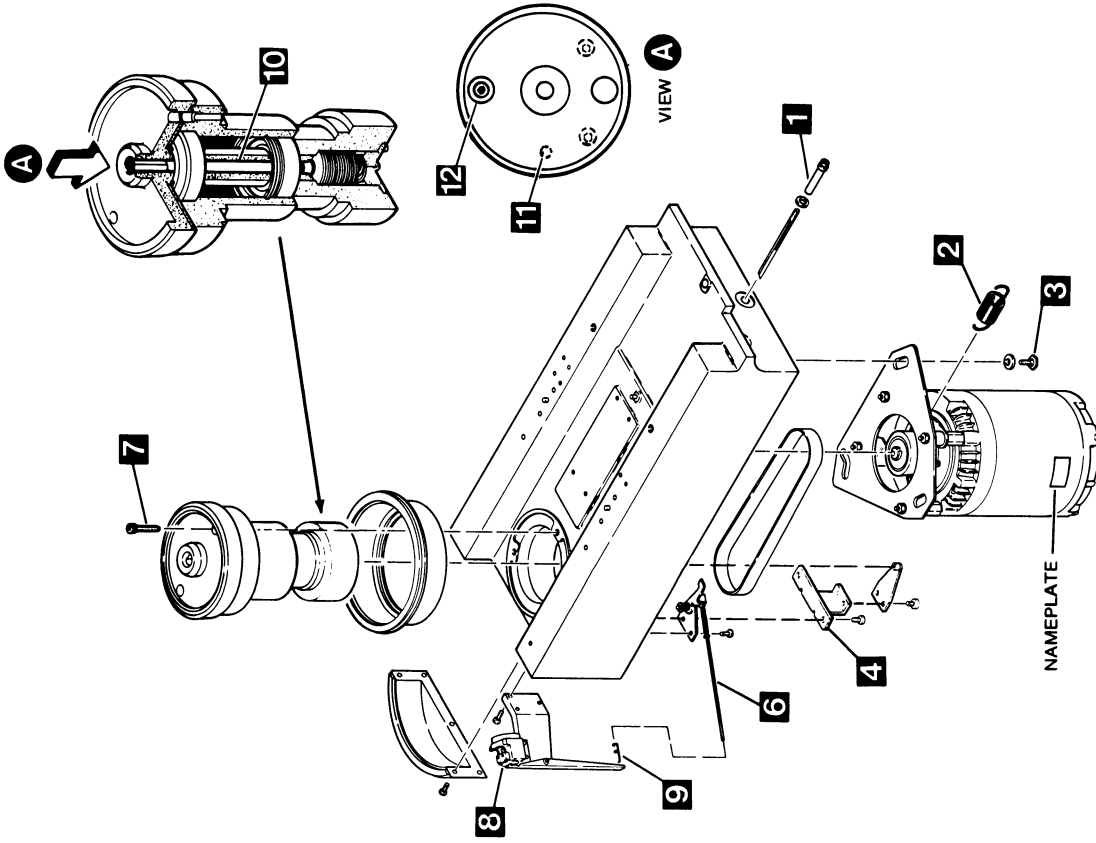

FIGURE 4-16. DRIVE MECHANISM
11. Remove the drive belt adjustment nut, [1] in Figure 4-16, using a 3/8" nut driver (or 3/8" socket and ratchet wrench). About 50 turns will be required.
14. Place a "spacer" (like that shown in Figure 4-15) on cabinet floor under the motor. With this spacer capable of supporting the weight of motor, remove three bolts, 3 in Figure 4-16, holding drive motor to deck plate. To remove these bolts, a  $\frac{3}{8}$ " ratchet wrench and the following accessories are needed:  $\frac{5}{8}$ " socket, a 2" extension, and a 12" extension, the latter for the rear bolt. Socket set is stocked under DEC part number 29-22445.
2. Remove spindle grounding assembly, 4 in Figure 4-16.
3. Remove spindle grounding assembly, **4** in Figure 4-16.
- a. Mount spindle housing by reversing steps 5 and 6. **Be sure to orient spindle housing so that the small hole **11** is on the left (9 o'clock position as viewed from the front VIEW A, Figure 4-16).**